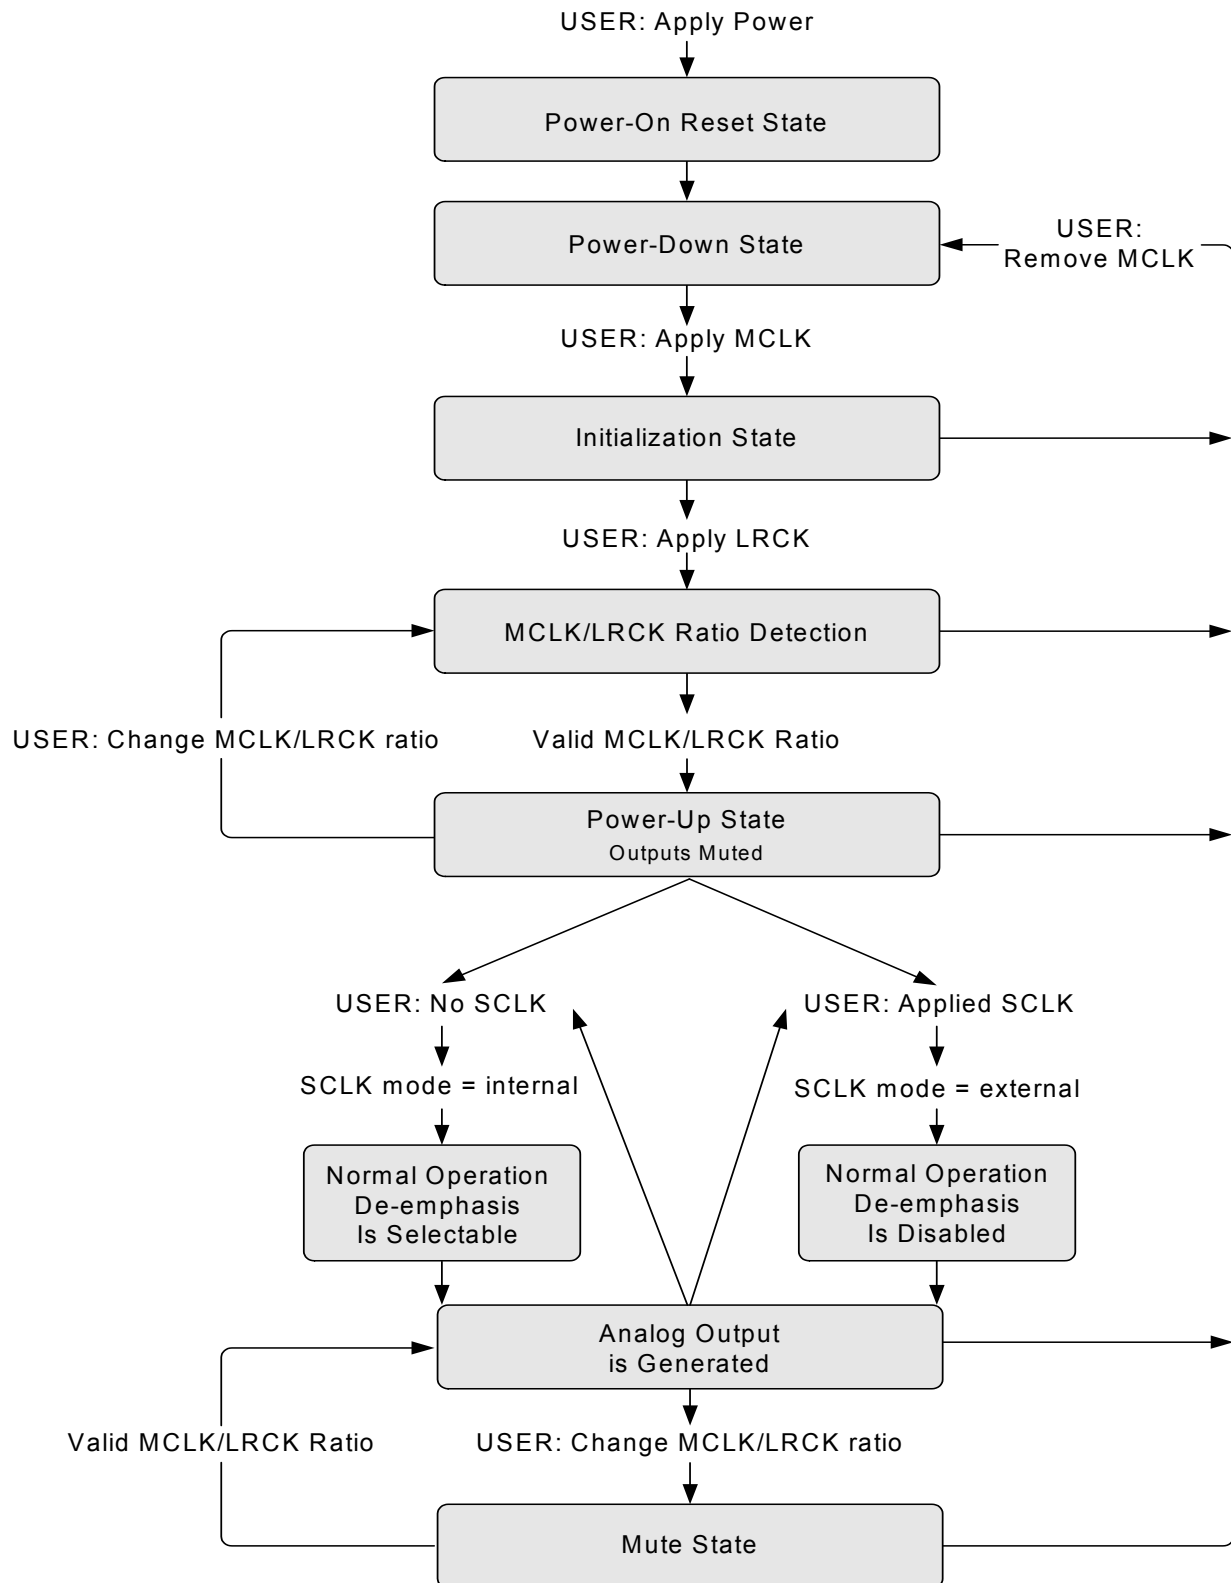

Figure 9. Initialization and Power-Down Sequence Diagram
The CS4354 operates in one of three operational modes. The device will auto-detect the correct mode when the input sample rate (Fs), defined by the LRCK frequency, falls within one of the ranges illustrated in Table 3. Sample rates outside the specified range for each mode are not supported. In addition to a valid LRCK frequency, a valid serial clock (SCLK) and master clock (MCLK) must also be applied to the device for speed mode auto-detection; see Figure 9.
The CS4354 will enter the External Serial Clock Mode when 16 low to high transitions are detected on the DEM/SCLK pin during any phase of the LRCK period. When this mode is enabled, the Internal Serial Clock Mode and de-emphasis filter are disabled (see Figure 9 for flow diagram).
The CS4354 will switch to Internal Serial Clock Mode if no low to high transitions are detected on the DEM/SCLK pin for 2 consecutive frames of LRCK (see Figure 9 for flow diagram). In the Internal Serial Clock Mode, the serial clock is internally derived and synchronous with MCLK and LRCK. The SCLK/LRCK frequency ratio is either 32, 48, or 64 depending on the speed mode and MCLK frequency. Operation in this mode is identical to operation with an external serial clock synchronized with LRCK. This mode allows access to the digital de-emphasis function. Refer to Table 5 for details (all frequencies listed as multiples of LRCK frequency).
See Figure 9 for a diagram of the device's states and transition conditions.
2. After the power supplies are stable, provide the correct MCLK, LRCK, and SCLK (only in External Serial Clock Mode) signals to progress from the 'Power-Down State' in the power-up sequence seen in Figure 9. Please refer to Section 4.4 on page 14 for common clock frequencies in the External Serial Clock Mode, and supported modes in the Internal Serial Clock Mode. The sequence will complete and audio will be output from the AOUTx pins within 50 ms after valid clocks are applied.